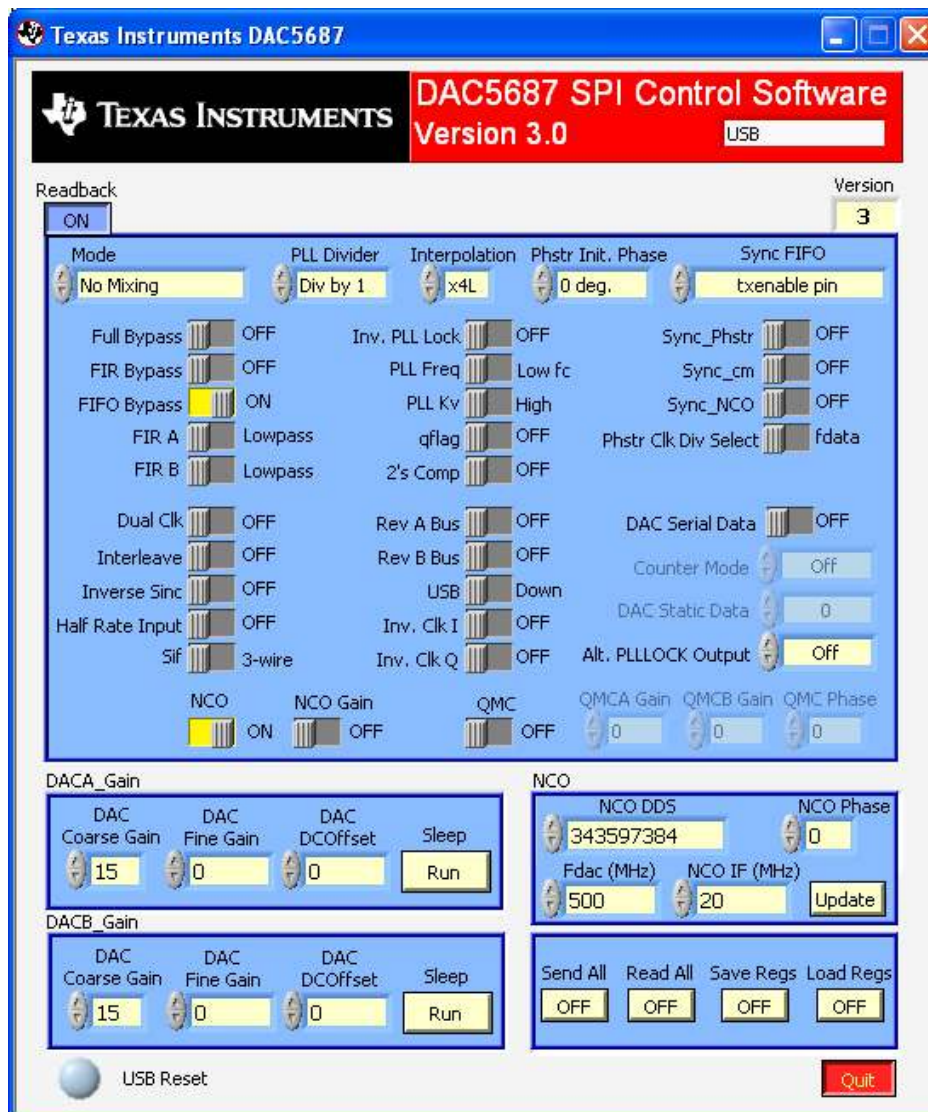

Figure 2. DAC5687 Setup for X4L Mode and NCO Tone at $F_{DAC}/25$
4. Click on the "Load Regs" button on the GUI. A new directory window will open. Click on the file called "User Guide Test.reg5687". Click on "OK". This will load a test setting for the DAC, corresponding to $F_{NCO}/12.5 = 20$ MHz for CLK2 = 500 MSPS ($F_{NCO} = F_{DAC}/2$ for X4L mode). The GUI should now look as shown in Figure 2.